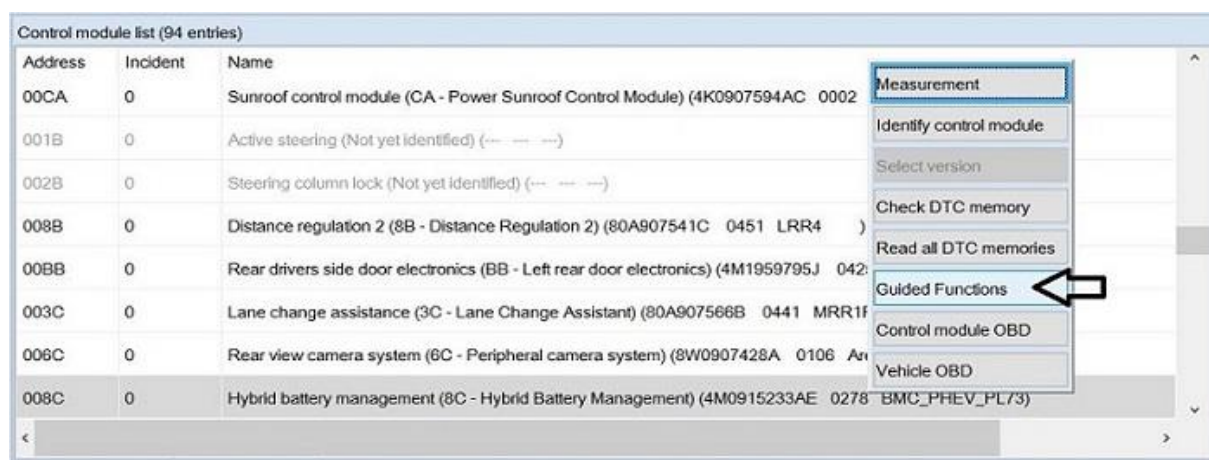

Figure 2. Guided Functions.
1. To obtain the data we need to use the diagnostic scan tool then right-click and select the hybrid battery management module, J840 (address word 008C), and select “Guided Functions” (Figure 2).